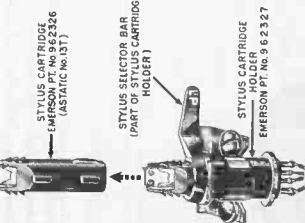

FIGURE 3 - STYLUS REMOVAL
- Reinsert new cartridge. Keying of cartridge is accomplished by lining up ridge on cartridge shaft to slot on holder (see Fig. 3, Stylus removal).